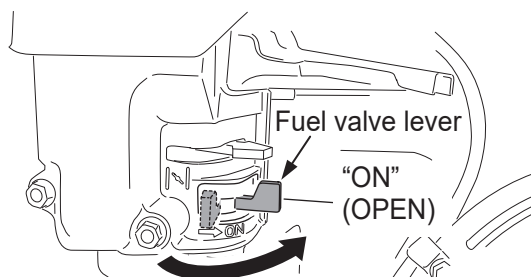

Fig.18
5. Set the fuel valve lever to the "ON" position to let the fuel flow. (Fig.18)